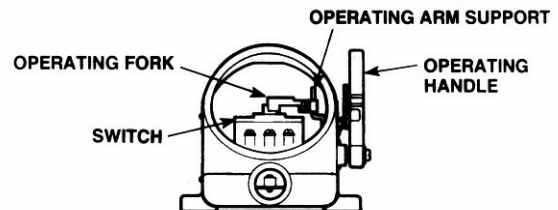

Figure 2
A. To remove motor circuit switch and mounting plate from enclosure; loosen the #10-32 x 7/8" screw on the operating fork. Slide the fork upward on the operating arm support and remove. Retain operating fork assembly for later use. (See figure 2).